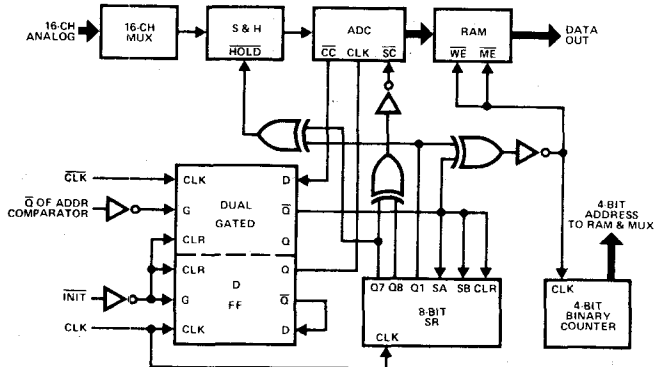
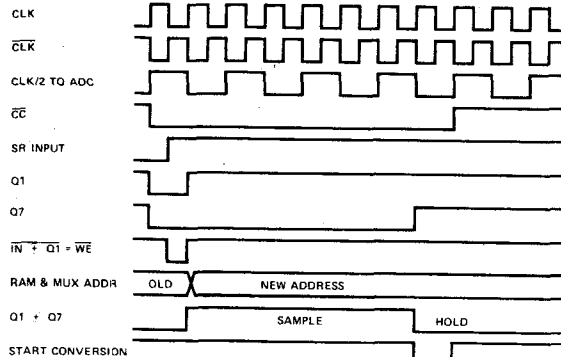

FIGURE 15. Sequencing Logic with SR
FIGURE 16. Timing for S-R Sequencing
An alternate sequencing circuit without one-shot circuits is shown in Figure 15 with timing relationships in Figure 16. It makes use of a shift register and exclusive-OR gates to generate the gates needed to write into memory, sample and hold, and start conversion. The ADC clock is generated at twice the desired clock frequency and divided by 2 in a D flip-flop. In this manner, the minimum gate width is 1/4 of the ADC clock period (620ns in this example). The  $\overline{CC}$  signal is clocked into a D flip-flop with a delay of 620ns. The delayed output clears the shift register (SR) and is clocked into the SR after an additional 620ns delay. An exclusive-OR of the SR input and Q1 output generates a 620ns gate to write data into the RAMs. The trailing edge of this  $\overline{WE}$  gate clocks the  $\div 16$  counter to advance the MUX and RAM address to the next channel. Exclusive-ORing of SR Q1 and Q7 produces an 8.75 $\mu$ s sample gate. (If the acquisition and settling time of the S&H is greater than 8.75 $\mu$ s, additional circuit complexity is required.) Exclusive-ORing of Q7 and Q8 produces a synchronized 1.25 $\mu$ s gate to start the ADC. This circuit may not be the most versatile or elegant for the purpose. For those applications with longer S&H acquisition times or other requirements, some alternate circuit may be designed if that of Figure 15 is unacceptable.